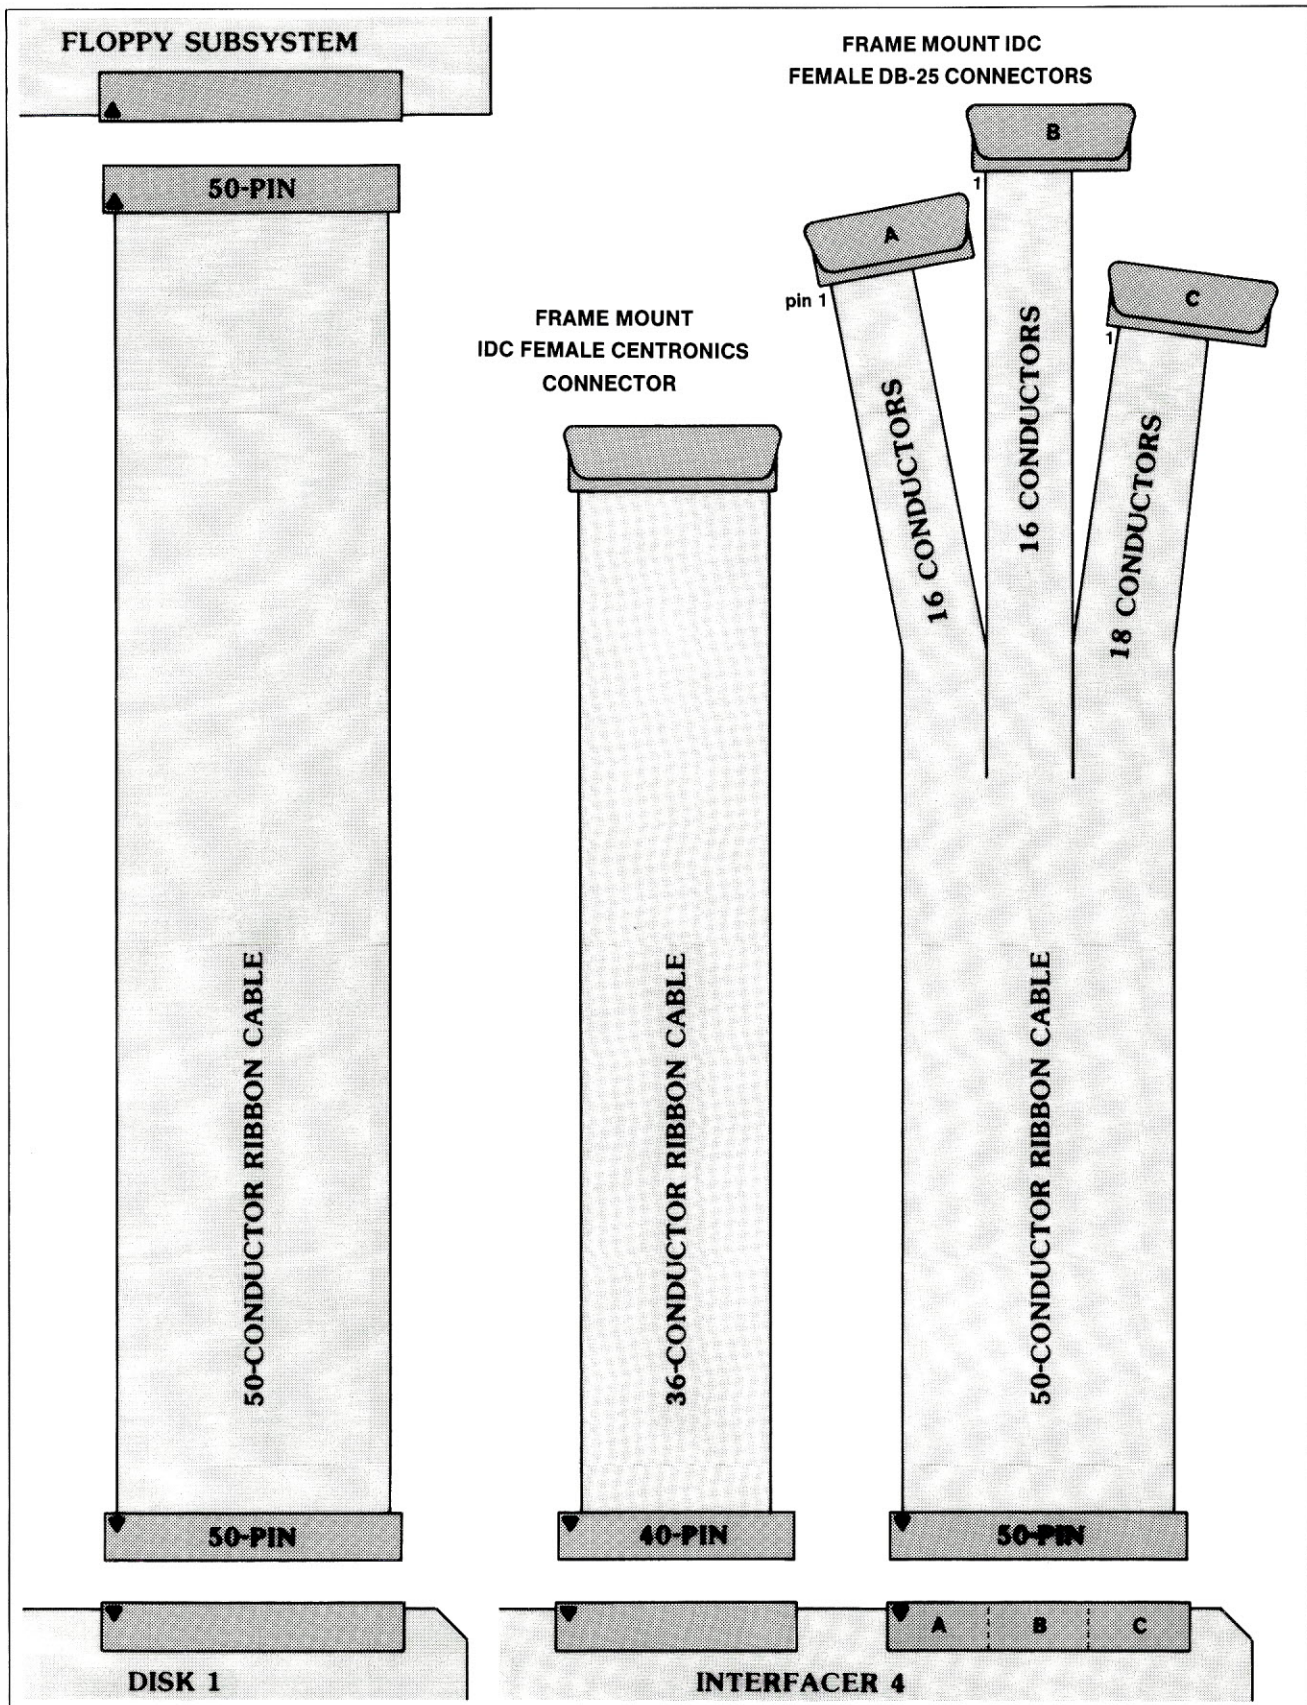

Figure 5. Internal cables and connectors.
(Also see Fig. 5 and the part below on making the cables.)
Cut the ribbon cable into two 3-foot sections and one 4-foot section. Split away fourteen of the wires in one of the 3-foot sections, thus ending up with a 36-conductor cable. Also, partially split the second 3-foot section as indicated in Fig. 5. Then, attach the connectors to the cables as shown in the figure.
Plug the cables into the Disk 1, Interfacer 4, and floppy subsystem (see Fig. 5). Mount the Centronics and DB-25 connectors in the back of the computer (cutouts are provided in the back, but you still may have to use a little imagination in order to mount the Centronics port).
Plug your terminal into the back of the machine (the correct port is the DB-25 marked A in Fig. 5). The terminal must be set for 9600 baud, 8 bit word, 2 stop bits, and no parity. Hold your breath a minute. Recheck all connections. You did take the shipping cardboard piece out of the drives, right? Relax a bit . . . FIRE! The fan should be on, the reset switch on the mainframe should be lit, and the light on the left (A) disk drive should be blinking. All OK? Take the "CP/M-68K System Master Disk 2 of 3" and insert it into the blinking drive. Close the drive. You should hear a few strange noises, while the system boots, then a message will appear on the screen. You are now on your own to explore, but remember to backup the CP/M-68K first; follow the instructions in the "Tech. Manual" that comes with it.
printer to the Centronics port or a serial printer to the serial port corresponding to the DB-25 marked B in Fig. 5. (Note the previously described procedure for configuring the Interfacer 4 to a printer.)